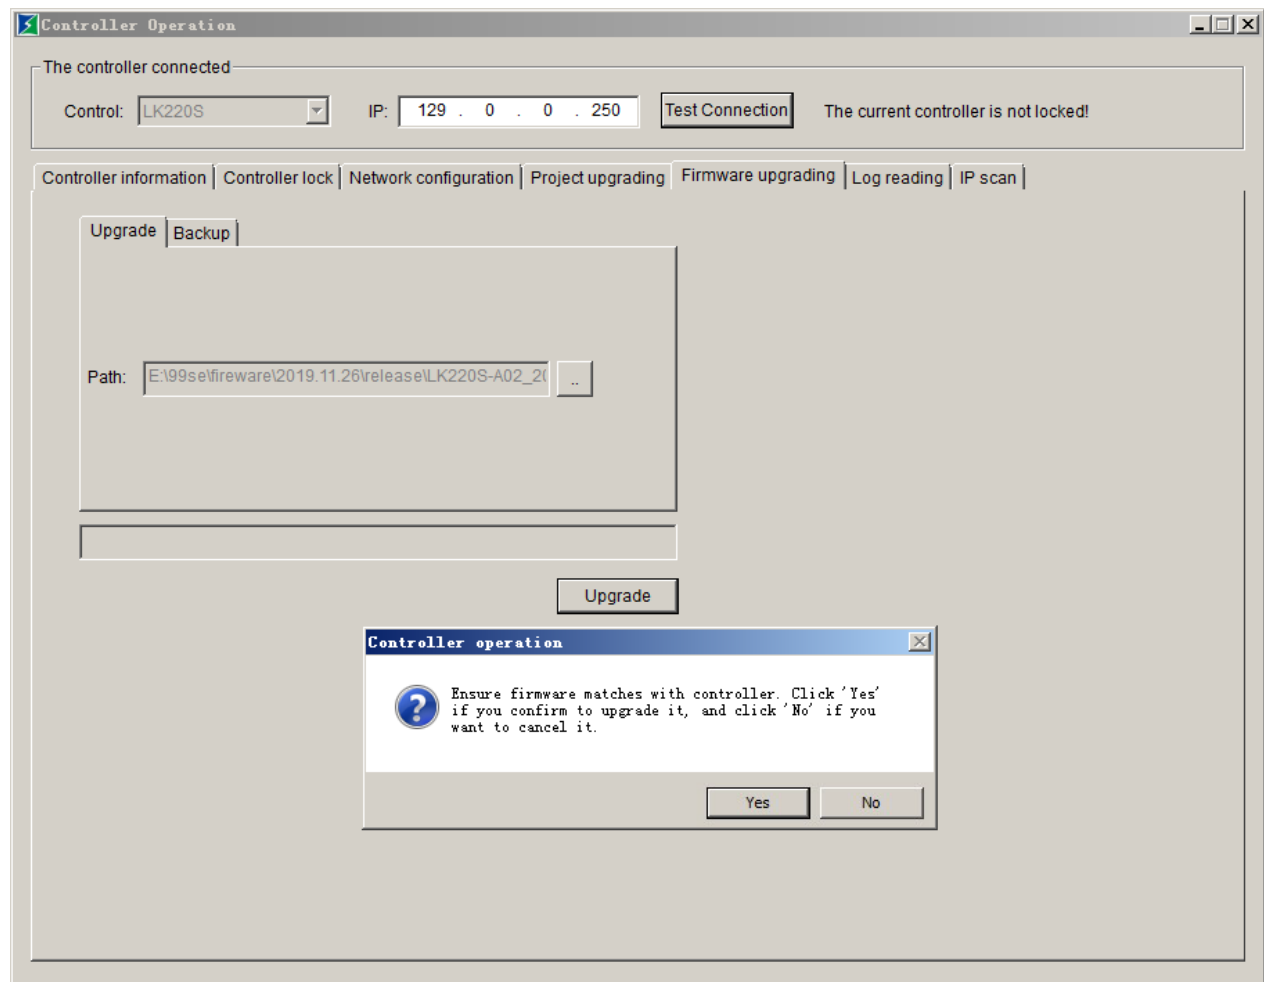

Figure 68 Firmware Upgrading Tools for Safety FA-AutoThink
Step 2. Open the dialog **Controller operation**, as shown in Figure 68. Firstly, you need to build the connection with the controller. In the [Firmware Upgrading] tab, click  in the Path field to select the .bin file of controller firmware, click **Upgrade** to pop up a prompt box of confirming Update, click **YES**, with the firmware file uploaded to the controller.